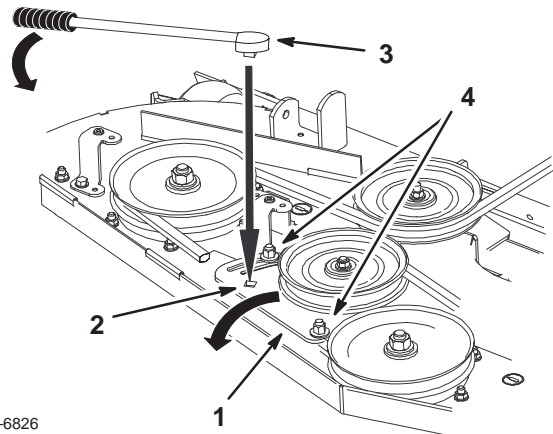

Figure 76
4. Loosen the nut securing the idler plate and move the idler plate to relieve the belt tension on the idler pulley, then remove the worn mower belt (Fig. 76).
5. If adjustment is required, loosen the mower idler plate and adjust it (Fig. 76).
6. Insert a ratchet or breaker bar into the square hole in the mower idler plate to adjust the tension (Fig. 76).
7. To increase belt tension, rotate the mower idler plate until resistance is felt and rotation stops. Do not go past when it stops (Fig. 76).
8. Tighten the idler plate bolts (Fig. 76).
10. Adjust the belt tension and the idler plate, if necessary, and tighten all hardware securely (Fig. 76).